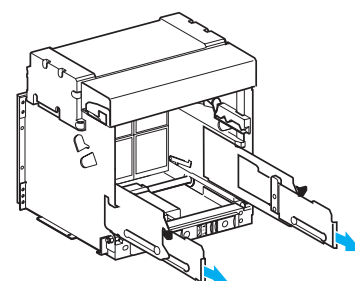

Fig. 2
- pull on the rail extraction handles (see Fig. 2),